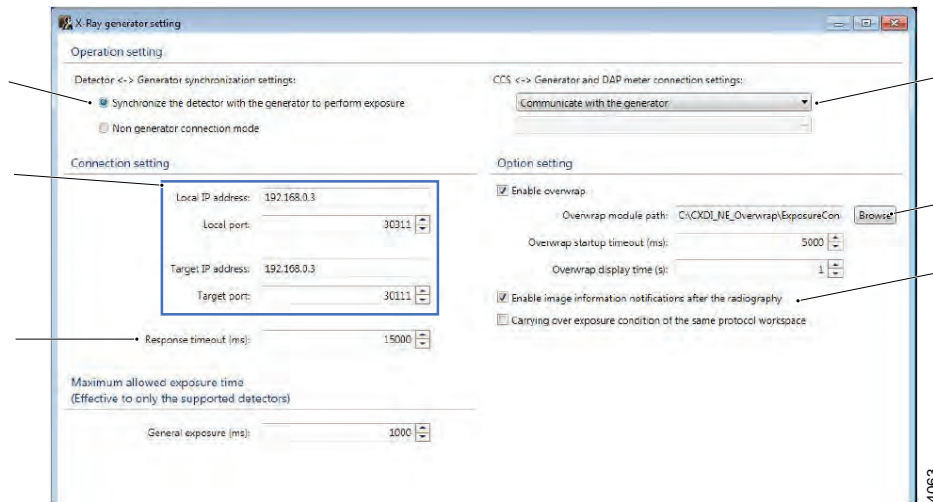

Fig. 5-6
- **Set Local IP addresses and ports** according to Fig. 5-6 .